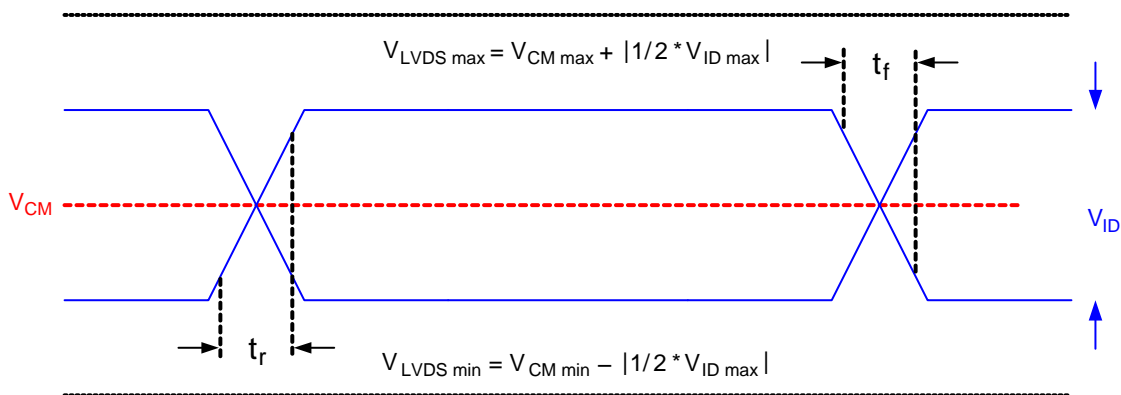

Figure 5. LVDS Waveform Requirements
(9) See Figure 5 LVDS Waveform Requirements.
(10) Simultaneous exposure of the DMD to the maximum Recommended Operating Conditions for temperature and UV illumination will reduce device lifetime.